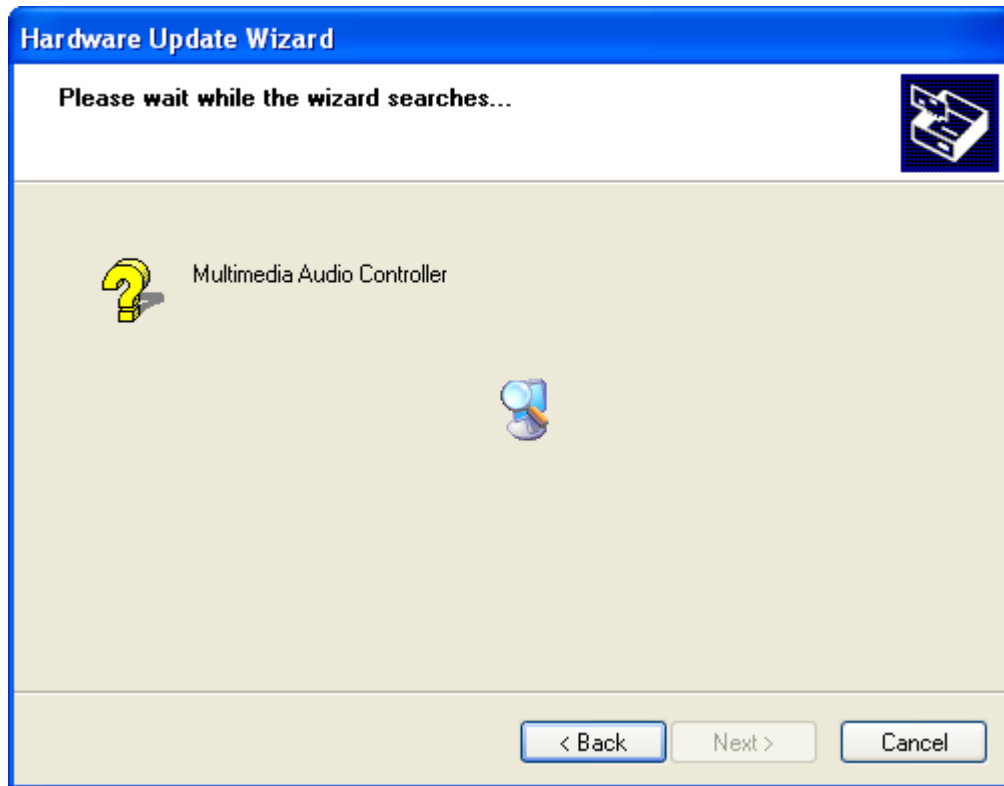

Figure 7-20: Wizard Search
Step 10: The Wizard then searches for the driver. See **Figure 7-20**.